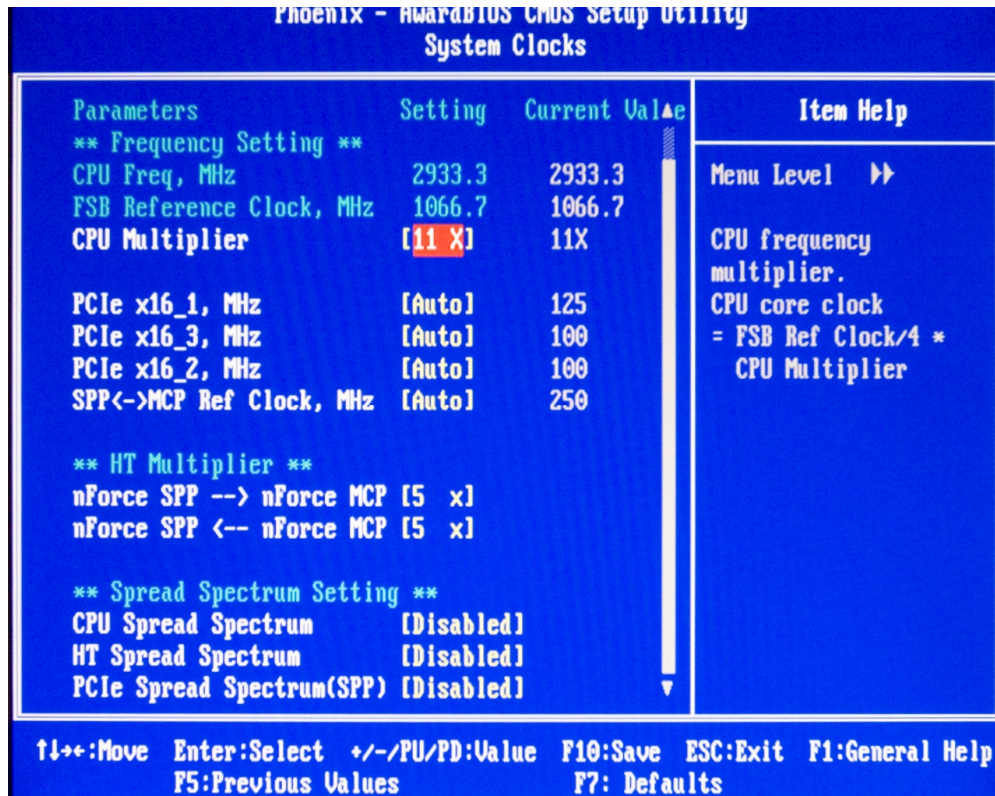

Figure 5. CPU Multiplier Settings
4. Type your desired value and press ENTER as shown in Figure 5.